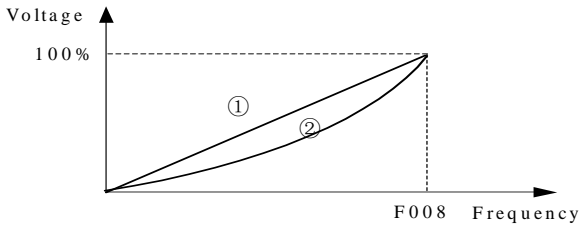

Fig. 6-10
Refer to Fig.6-10, where ① V/F constant, ② energy-saving operation.